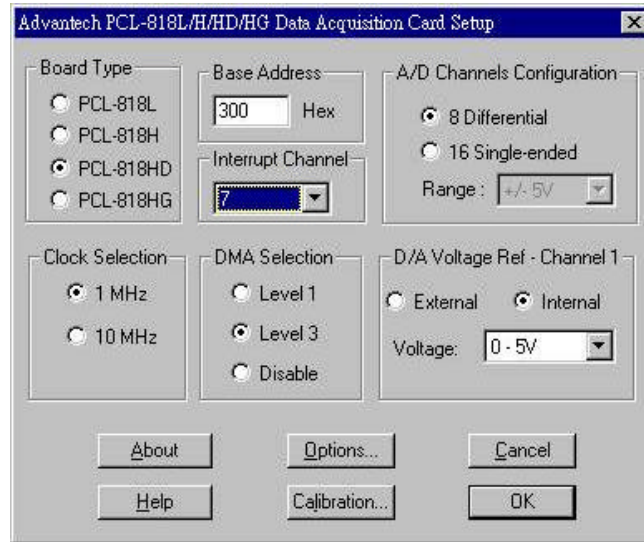

Fig. 2-4 *The Device Setting dialog box*
Step 3: Scroll down the *List of Devices* box to find the device that you wish to install, then click the *Add...* button. You will see a *Device Setting* dialog box such as the one in Fig. 2-4.
Step 4: On the *Device Setting* dialog box (Fig. 2-4), you can configure the A/D channels configuration either as *8 Differential* or *16 Single-ended*, and specify the D/A voltage reference either as *External* or *Internal*.